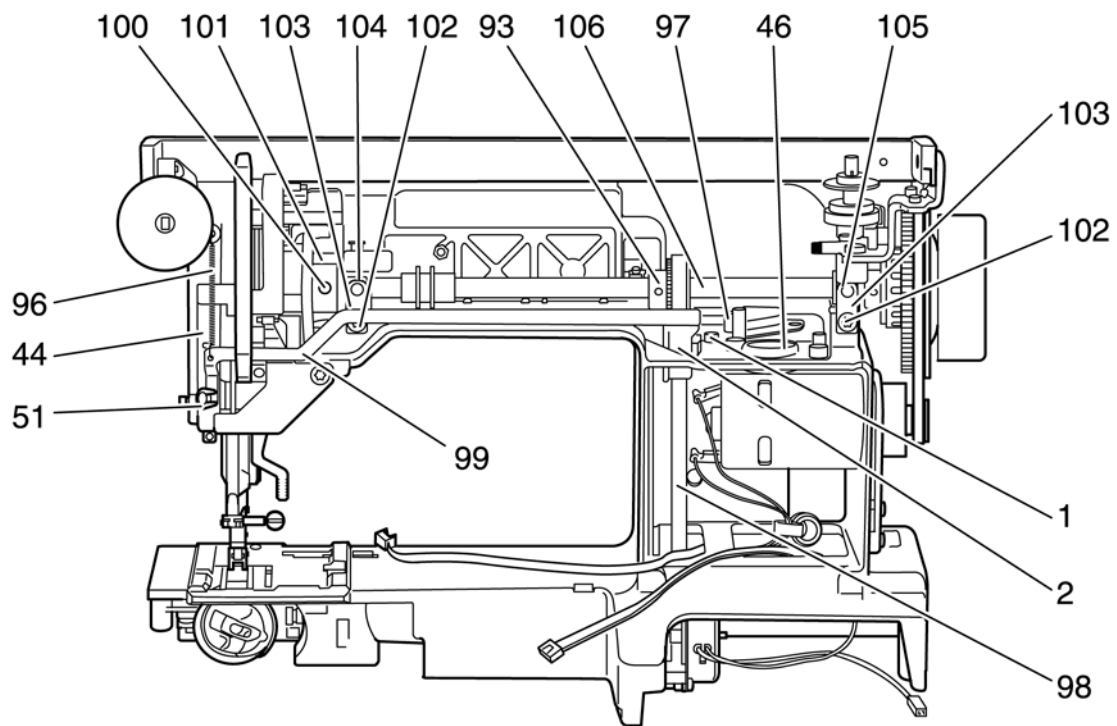

Fig. 75
- Loosen fastening screw 1 of tensioning roller 2 (fig. 75).
- Disconnect tension spring 96 on needle bar frame 44 (fig. 75).
- Loosen screw 100 on needle bar crank 101 (fig. 75).